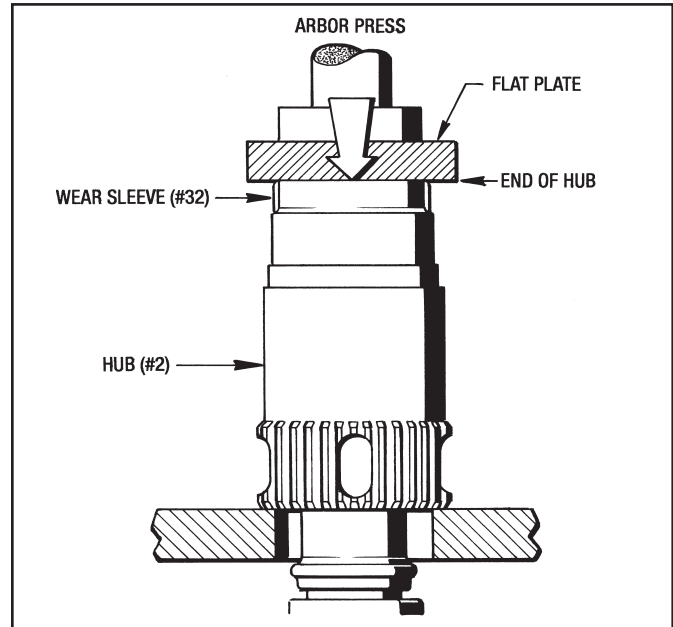

Figure 9.2 - Installing Wear Sleeve (#32)
2. Apply Red Loctite #262 to the hub diameter and press the Wear Sleeve (#32) on to the Hub (#2) as shown in Figure 9.2.